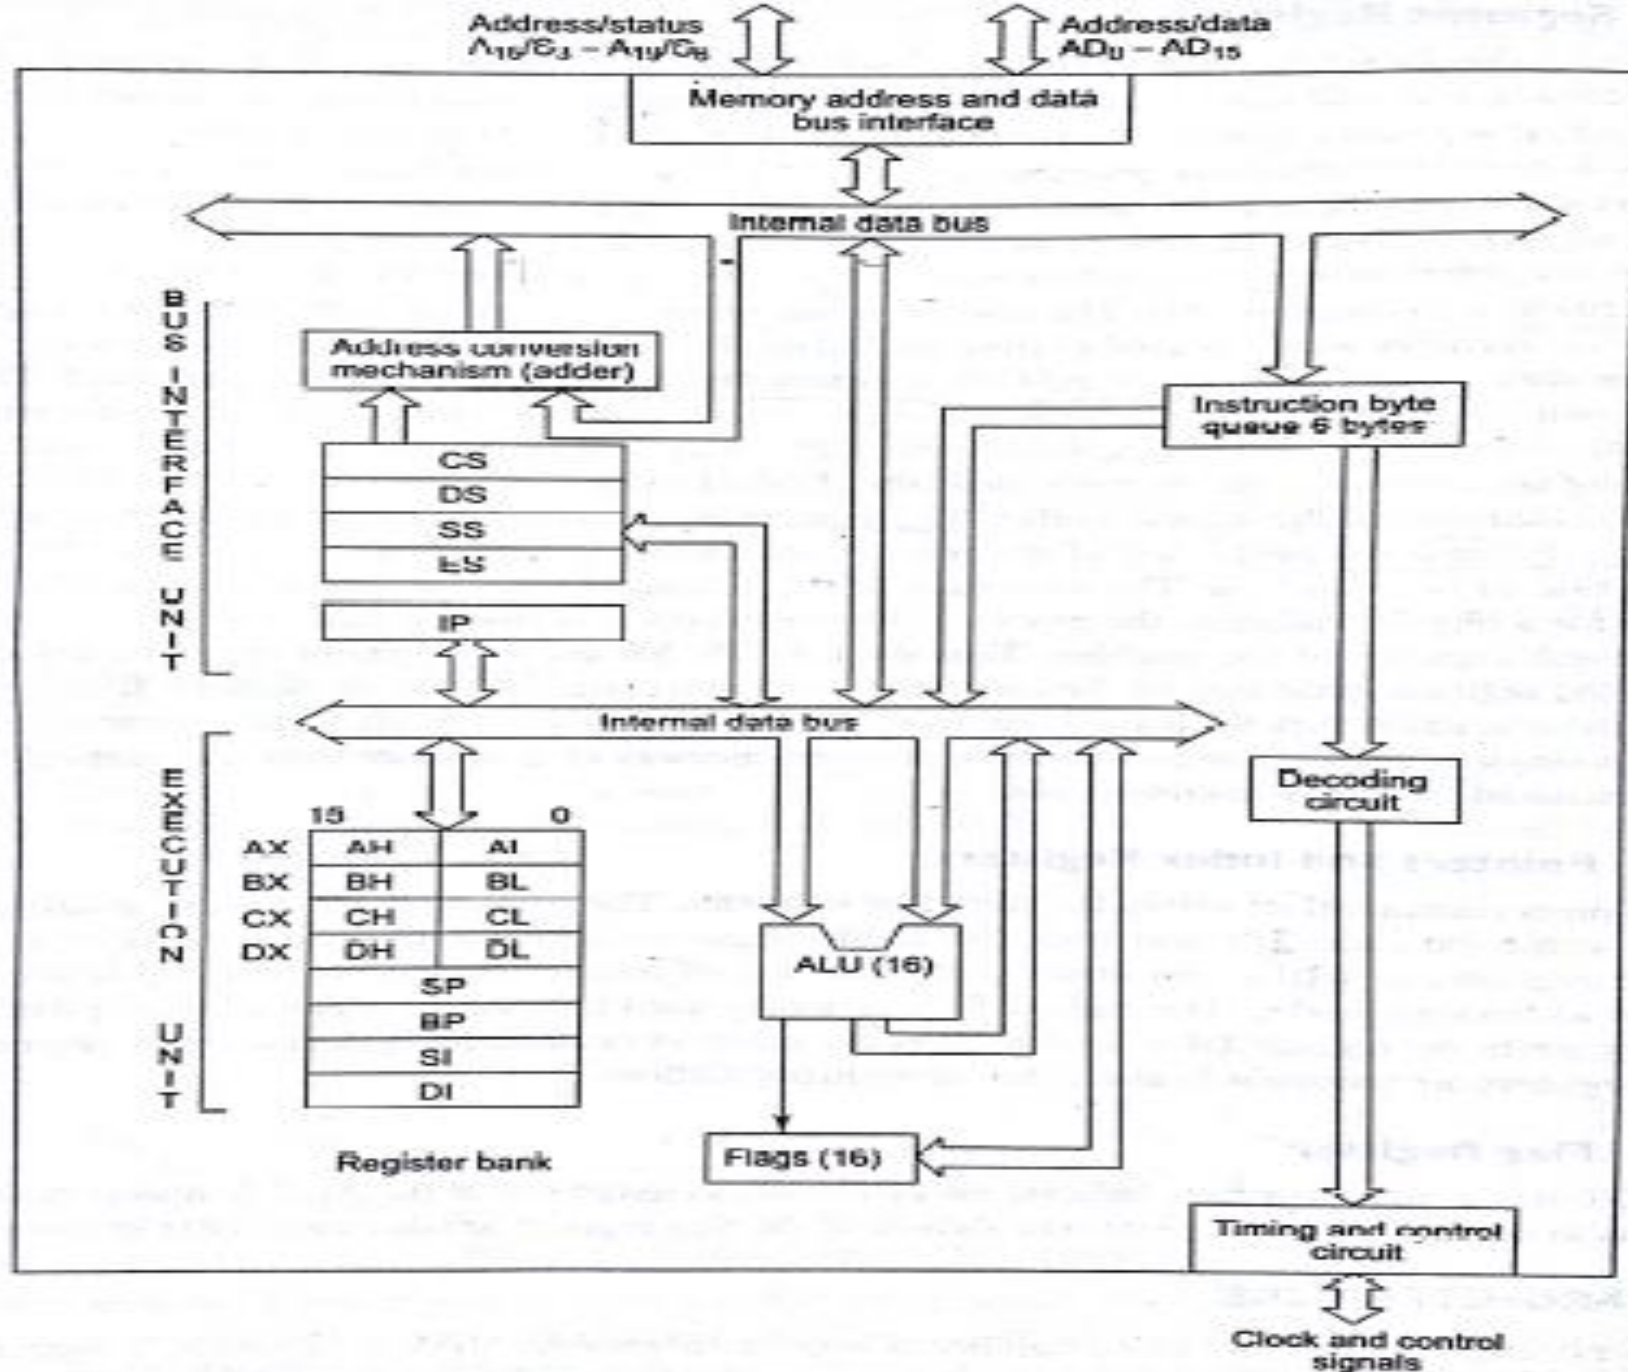

Fig. 1.2 8086 Architecture
- The internal block diagram, shown in Fig 1.2, describes the overall organization of different units inside the chip.